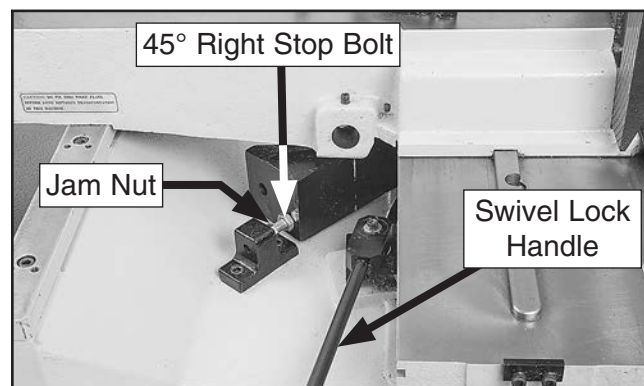

Figure 94. 45° right stop bolt and jam nut location.
4. Rotate swivel lock handle toward base, then rotate headstock *counterclockwise* until base contacts 45° stop bolt (see **Figure 94**).
- If square *does not* fit snugly against outer fixed jaw and blade, loosen jam nut shown in **Figure 94** on **Page 59**. Thread stop bolt inward or outward as necessary, until square fits snugly against fixed jaw base while base contacts stop bolt.